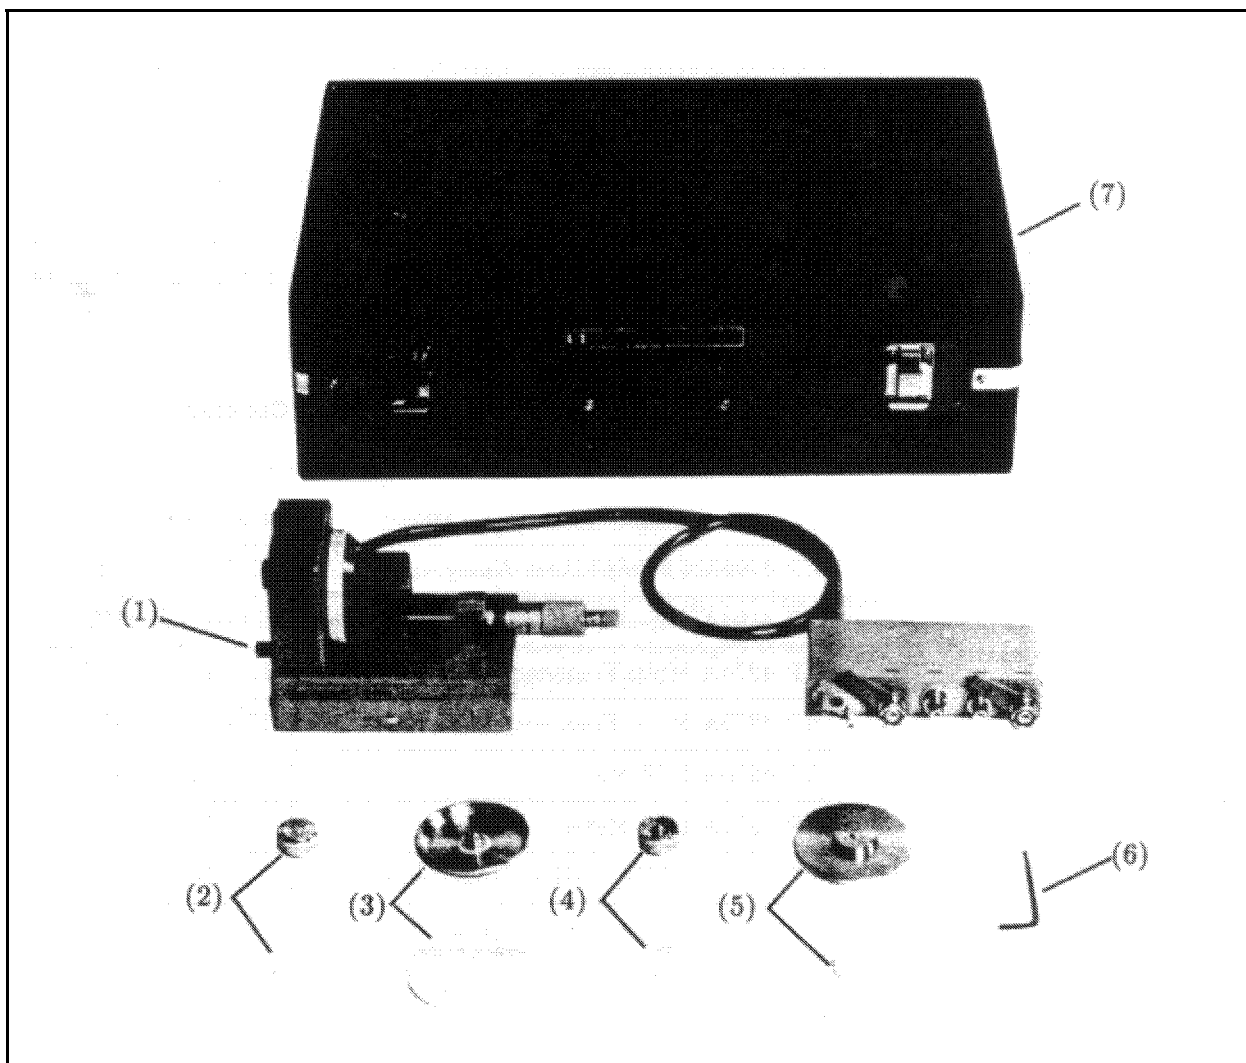

Figure 1-1. Product Overview
2. Verify that the shipping container contains everything shown in Figure 1-1 and listed in Table 1-1 of this Operation and Service Manual.